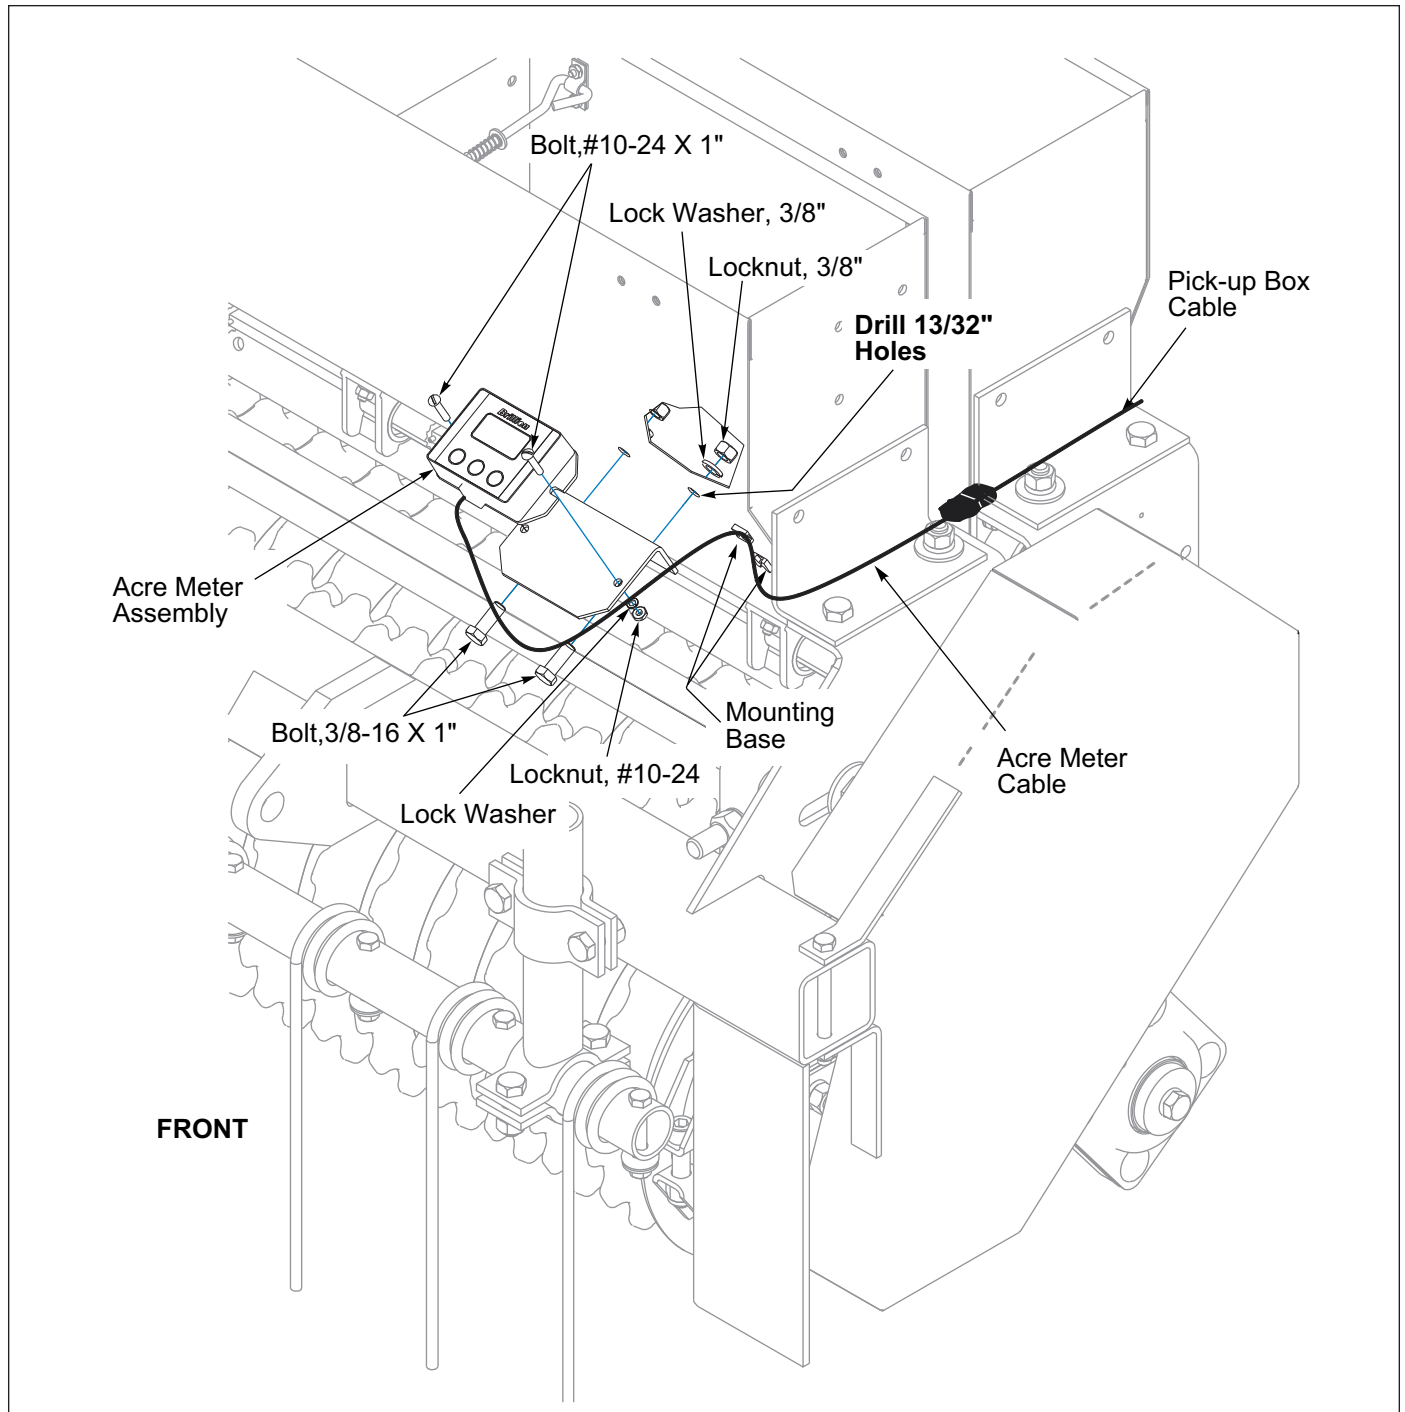

Figure 2-6: Acre Meter (1 of 2)
1. Drill 13/32" holes into seedbox at location shown. See **Figure 2-6**.
4. Then run the wire from the bottom of the meter down the side of the seedbox and along its left side. Use mounting bases to hold the wire in place. Direct it across the plate which attaches the seedbox to the end plate. See **Figure 2-6**.